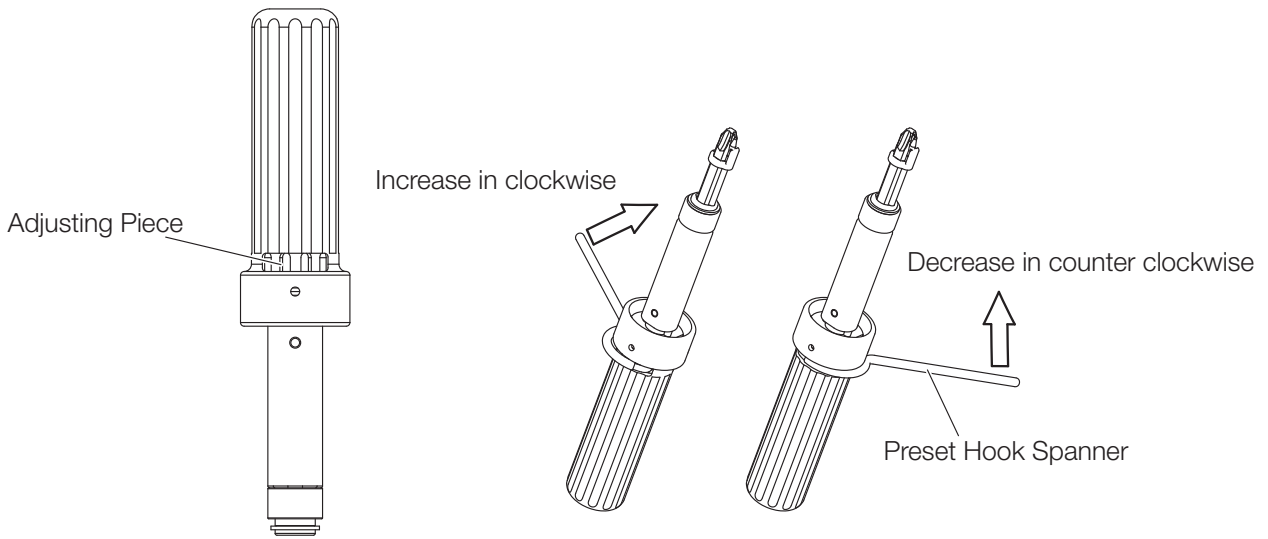

Fig. 1
## (1) Adjustment Pre-set Torque Value, Fig. 1